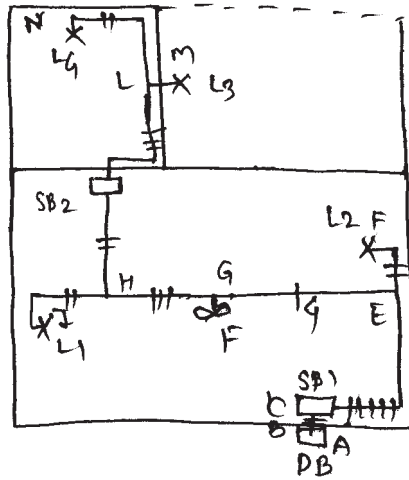

Fig. No. 1
- Study the following single line representation shown in Fig. No. 1 and answer the following: